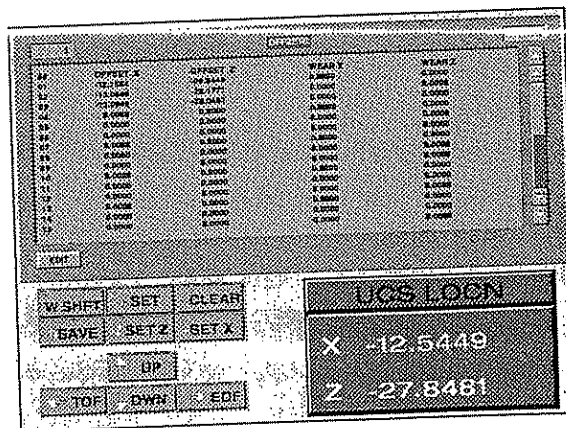

Figure 3-2
- 1) Press the **[F2]** **T OFFS** key. A screen as shown in Figure 3-2 will appear.